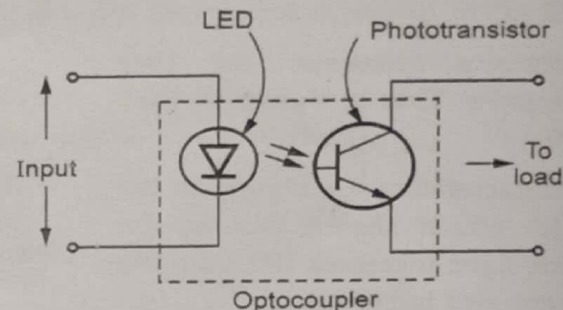

Fig. Q.27.2 LED-phototransistor optocoupler
- The Fig. Q.27.2 shows LED - phototransistor optocoupler.